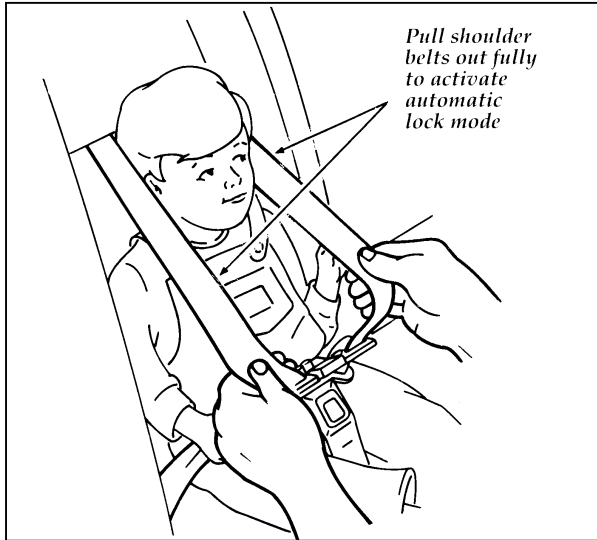

Figure 10: Checking for securely latched buckle and locked retractor
10. Pull on the safety belt tongues to be sure that they are both latched. See Figure 10.
11. If the child sleeps or tries to get out of the child seat, pull shoulder out fully to put the retractor into automatic lock mode. Allow belts to tighten snugly against the child's shoulders. See Figure 10.